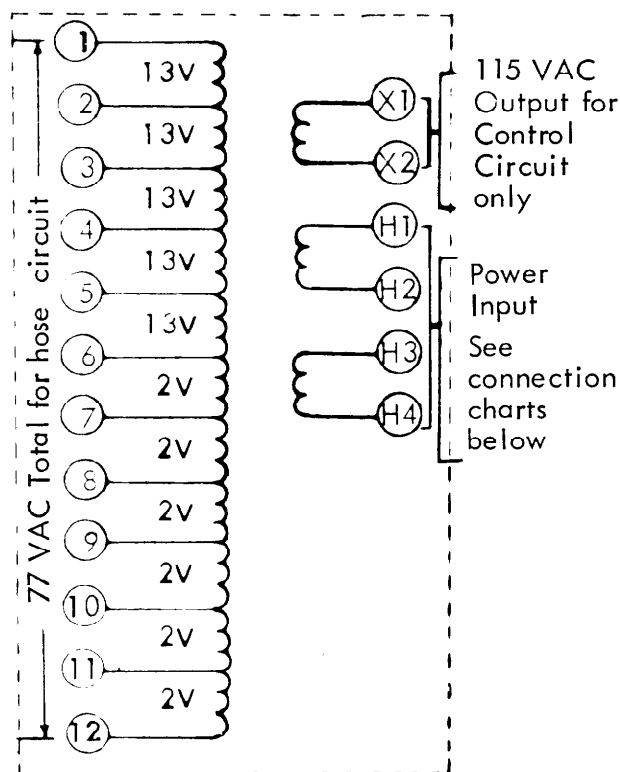

Figure 4 - Transformer Schematic
4. Referring to Figure 4, determine the terminals on the transformer that will supply an output voltage closest to the desired voltage. Use the example provided below to aid in computations.